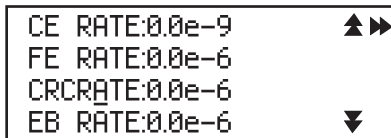

Figure 20 Error Rates Screen
**Note:** Press ▶▶ to see the error rates, as in Figure 20: